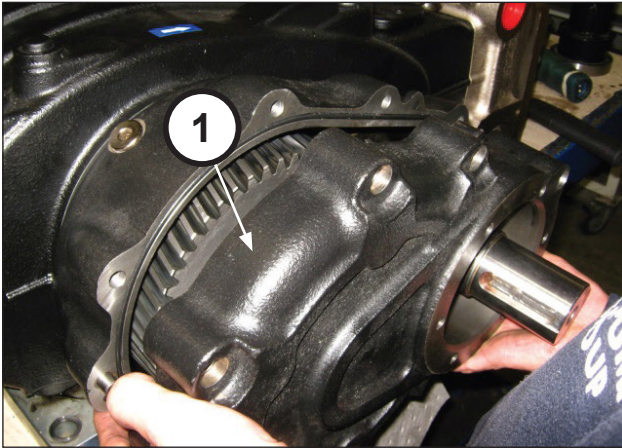
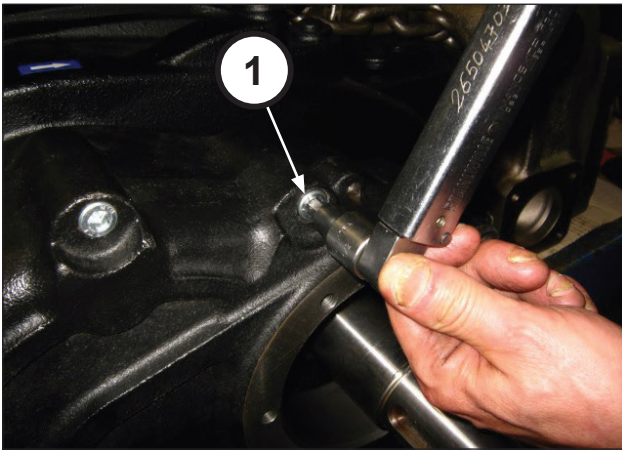

Fig. 78
Fig. 79
Assemble the reduction gear cover (pos. ①, Fig. 78) and fasten it with 10 M10x50 screws (pos. ①, Fig. 79). Calibrate the screws with a torque wrench as indicated in chapter 3.